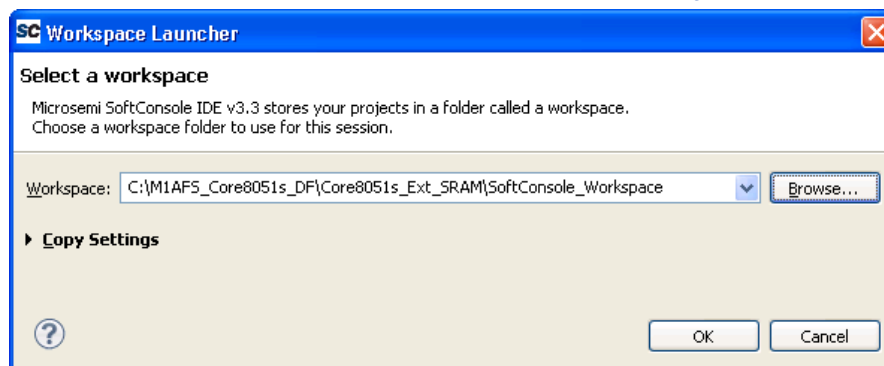

Figure 15 Selecting SoftConsole Workspace
2. Open **SoftConsole** and launch new workspace, as shown in Figure 15.